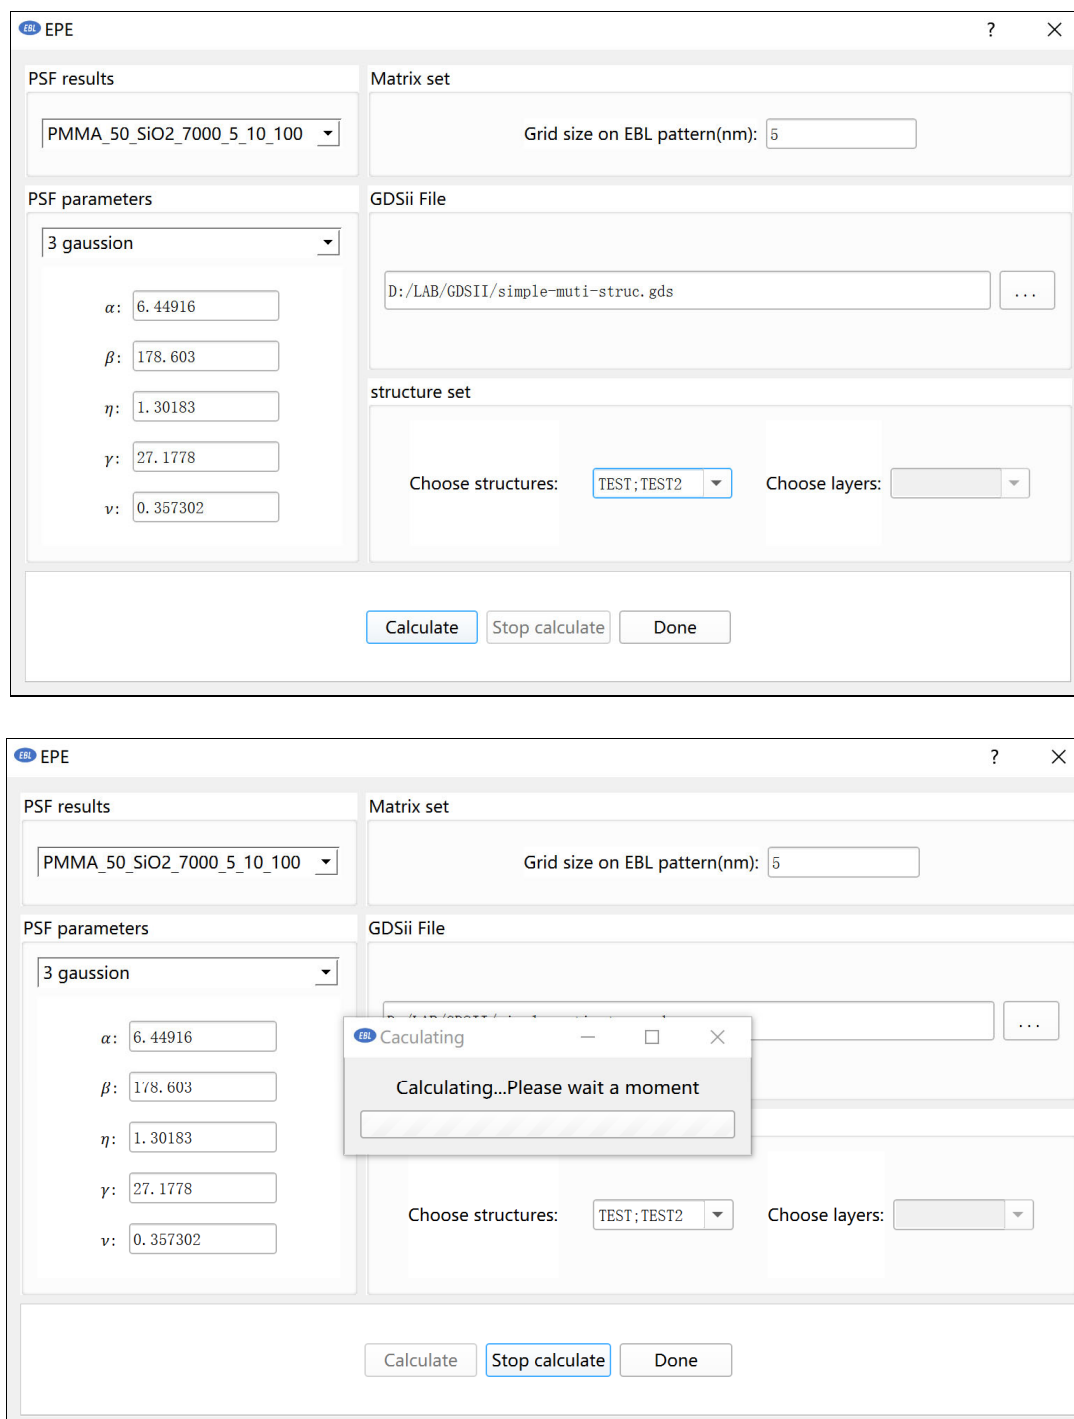
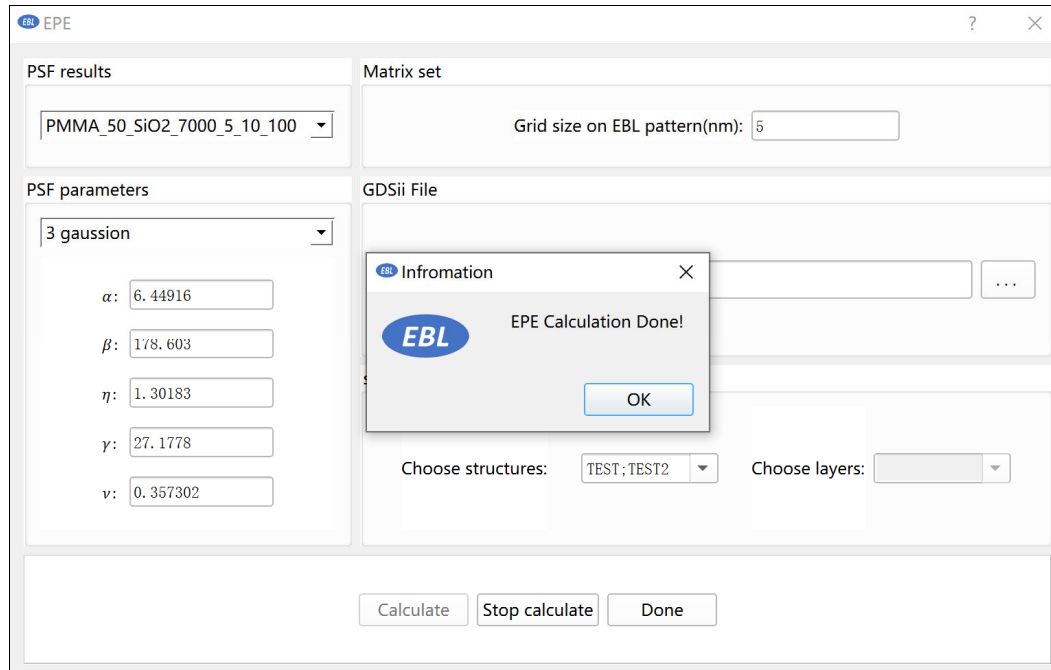

Figure 2.7.1 Calculating EPE
Figure 2.7.2 EPE done
- 1) You can click "EPE" on the toolbar at the top of the main interface to start the settings related to calculating the edge placement error (EPE) (Figure 2.7.1).
- 3) In the "fitting function", you need to select the fitting formula. And the Figure 2.7.1 selects the three Gauss function to calculate the EPE.
- 4) "Matrix set" is set to calculate the minimum size (nm) of the exposure unit, and 5nm is selected in the figure 2.7.1. (Note: If the layout is large, the minimum size of the exposure unit should not be too small. If the size is too small and the computer memory is insufficient, a prompt will be given.)
- 6) You can click "Calculation" (Figure 2.7.1) to calculate the EPE. If the input parameters are incomplete, the calculation cannot be started. There will be a prompt box after the calculation is completed (Figure 2.7.2). After the calculation is completed, you need to click "Done" to close the current window.